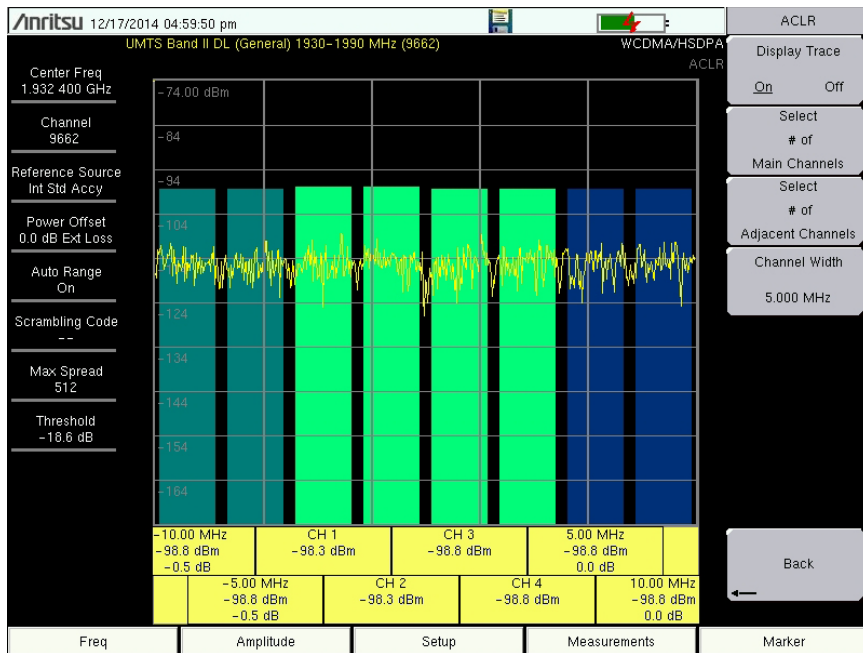

Figure 3-4. ACLR Multi-channel Measurement
5. Press Select # of Main Channels to open the Num of Main Channels list box. Highlight the desired number of channels and press **Enter**. In Figure 3-4, four channels were selected.